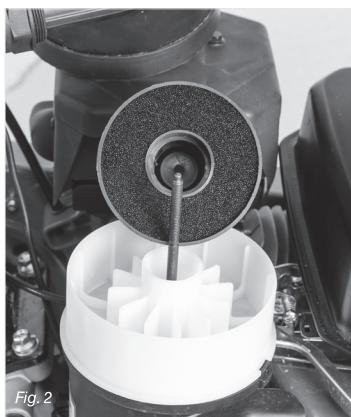

Fig. 2
- 2) Clean the foam filters with warm soapy water and rinse well. Let them dry completely. Or clean them with a low ignition solvent and let them dry. Once well dried, immerse the foam filter in oil and fill the inner bowl to the level indicated on it, (only for the filter in fig. 2) of clean engine and squeeze it to remove excess oil. When the engine starts it will smoke if you have left too much oil in the filter.